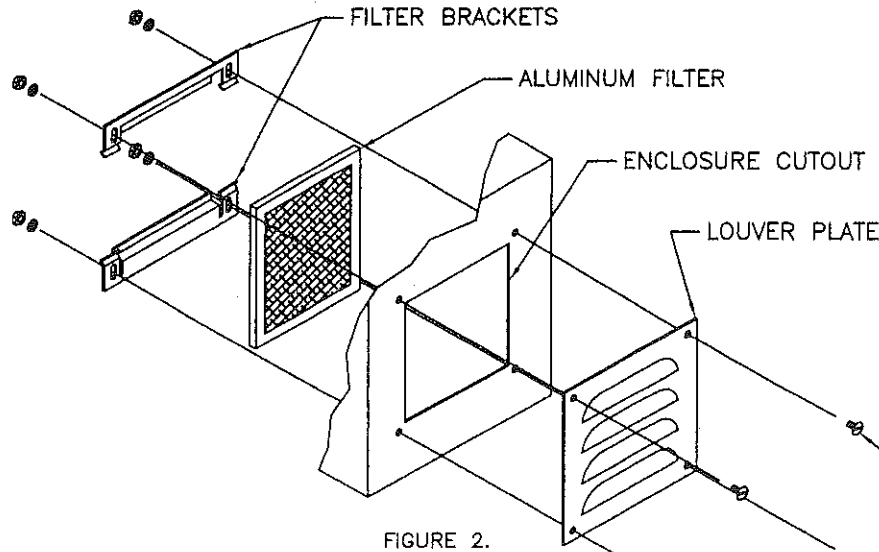

FIGURE 2.
4. ASSEMBLE LOUVER KITS AND/OR FILTER KITS AS SHOWN IN FIGURE 2.